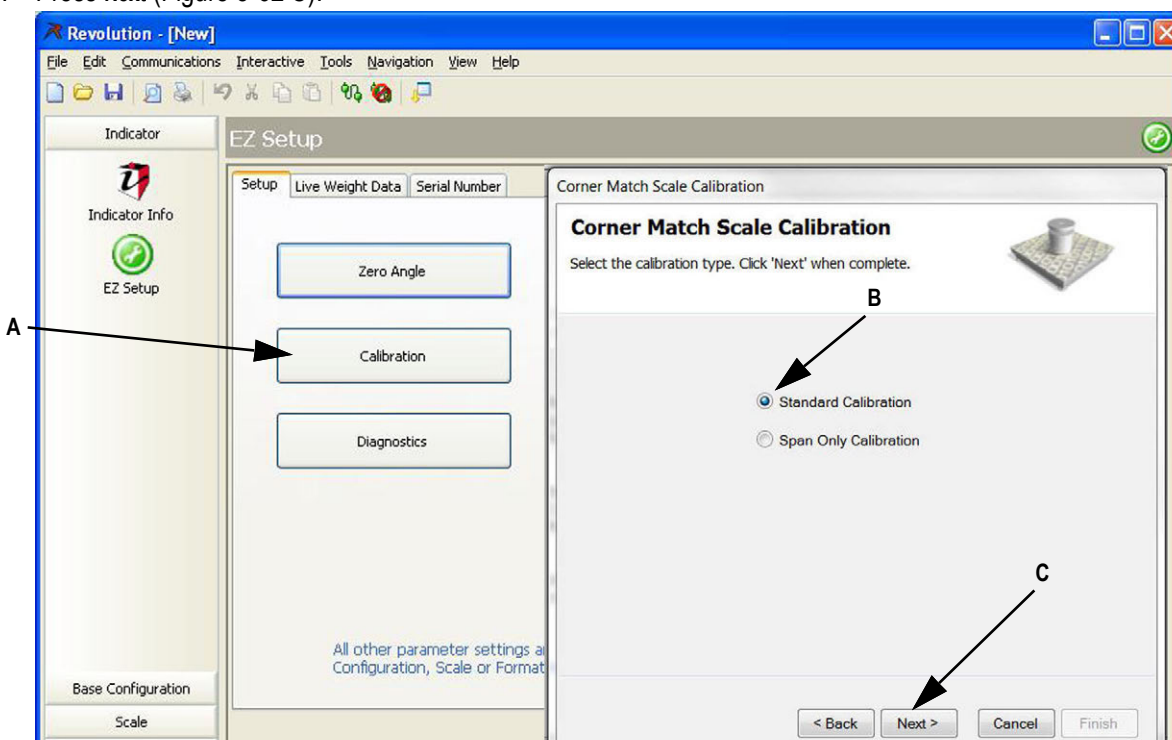

Figure 5-62. Enter Calibration
3. In set-up select *Calibration* (Figure 5-62 A).
4. Select "Standard Calibration" (Figure 5-62 B)
5. Press **Next** (Figure 5-62 C).